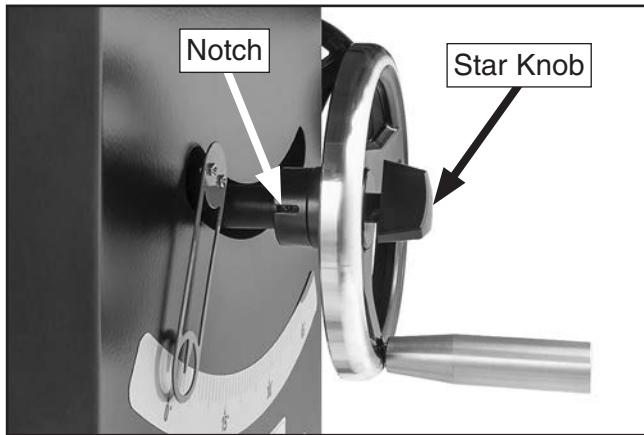

Figure 15. Handwheel properly installed.
- Install handwheels on shafts, making sure notch in each handwheel fits over pin on each shaft, as shown in **Figure 15**, and then secure with star knobs.